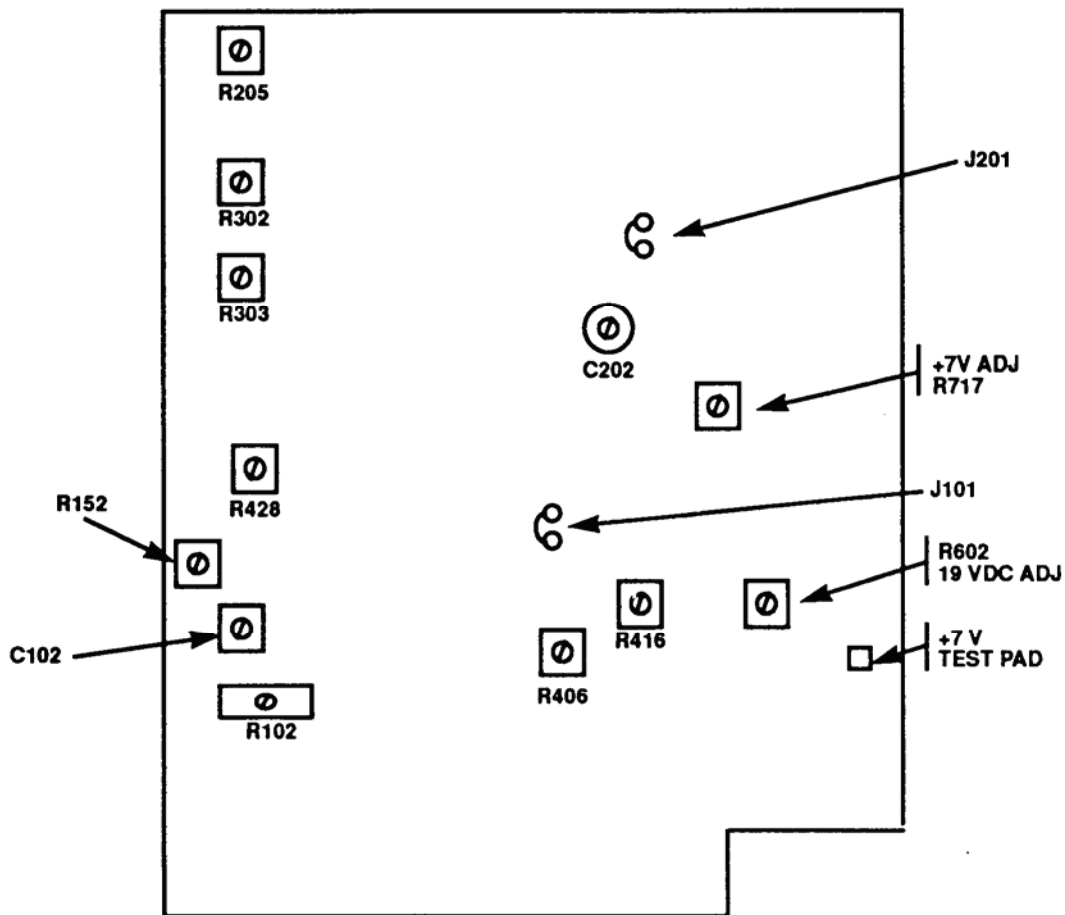

Figure 2. Adjustment locations, model 3466A - top view.
- (1) Set calibrator to **STANDBY**.
- (2) Press **TI RANGE 20** pushbutton.
- (3) Set calibrator for a 19 V dc output. Adjust R602 19 VDC ADJ (fig. 2) for a 19.000 V TI indication (R).
(1) Adjust R416 (fig. 2) for a TI indication equal to calibrator output display rounded to TI digits of resolution.
(2) Adjust R406 (fig. 2) for a TI indication equal to calibrator output display rounded to TI digits of resolution.
(3) Adjust R428 (fig. 2) for a TI indication equal to calibrator output display rounded to TI digits of resolution.
- (2) Press TI **RANGE 20** pushbutton.
- (3) Set calibrator for a 19 V, 200 Hz output. Adjust R303 (fig. 2) for a 19.000 TI indication (R).
- (4) Set calibrator for a 1.9 V, 200 Hz output. Adjust R302 (fig. 2) for a 1.900 TI indication (R).
- (5) Repeat (3) and (4) above for best compromise.
- (6) Set calibrator for a 19 V, 10 kHz output. Adjust R102 (fig. 2) for a 19.000 TI indication (R).
- (7) Set calibrator for a 1.9 V, 10 kHz output.
- (8) Press TI **RANGE 2** pushbutton. Adjust C102 (fig. 2) for a 1.9000 TI indication (R).
- (9) Set calibrator for a 1.9 V, 100 kHz output. Record TI indication.
- (10) Press TI **RANGE 20** pushbutton.
- (11) Set calibrator for a 19 V, 100 kHz output. Adjust C202 (fig. 2) for a TI indication numerically the same as recorded in (9) above (R).
- (12) Set calibrator for a 1.9 V, 100 kHz output.
- (13) Press TI **RANGE 2** pushbutton and record TI indication.
- (14) Repeat (10) through (13) above until numerical indications are the same, or best compromise.
- a.** Measure voltage at +7V TEST PAD (fig. 2) with multimeter. If required, adjust +7V ADJ R717 (fig. 2) for a multimeter indication between 6.99 and 7.01 V dc (R).
- e.** Connect multimeter to J101 (fig. 2). Adjust R152 (fig. 2) for a multimeter indication of 0  $\pm$ 100  $\mu$ V (R).
- f.** Connect multimeter to J201 (fig. 2). Adjust R205 (fig. 2) for a multimeter indication of 0  $\pm$ 200  $\mu$ V (R).